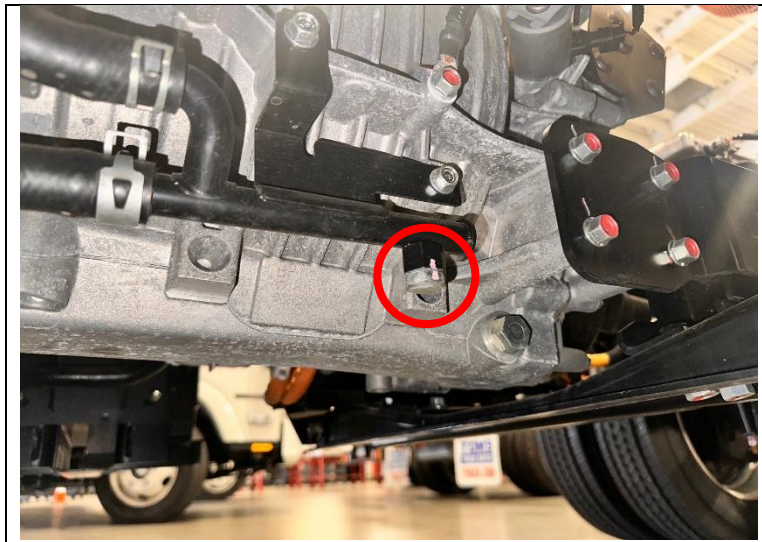

Figure 22
53. Place a coolant drain pan under the coolant drain plug on the left-hand side of the drive motor. (See Figure 22.)